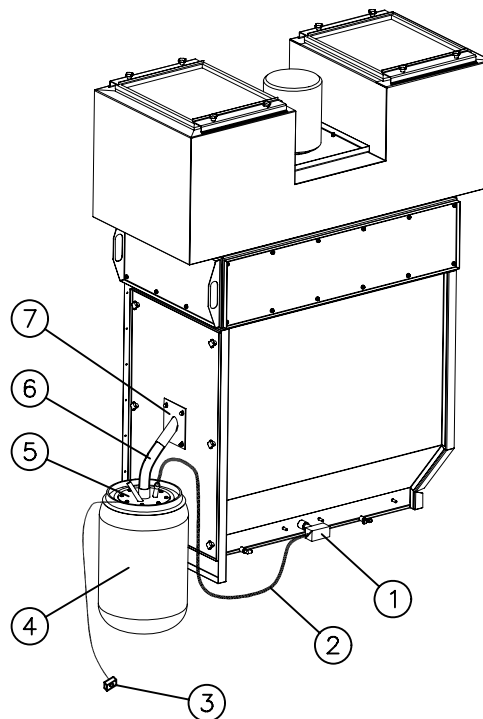

Figure 12 Waste Container Connections
9. See Figure 12. Connect the feed center waste pump hose to the waste container lid. Make sure the waste container vent hose is connected to the vent stub mounted on the side of the feed center.
2. See Figure 12. Install a waste lid on an empty 55 gallon drum.